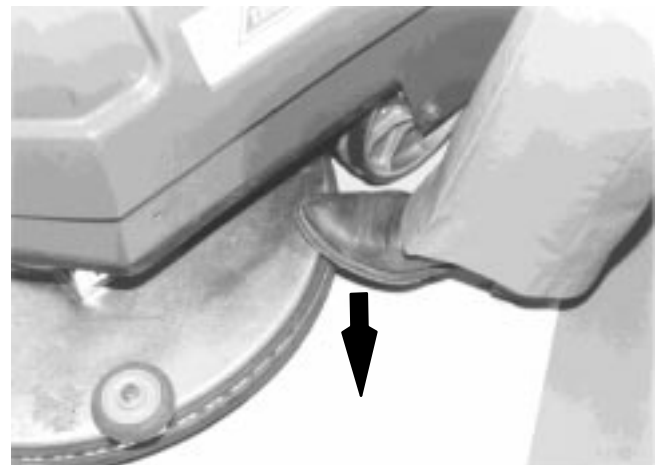

FIG. 2.
2. Tap the right front side of the pad shroud with your toe. The head will rise to the pad mounting position (*Figure 2*).